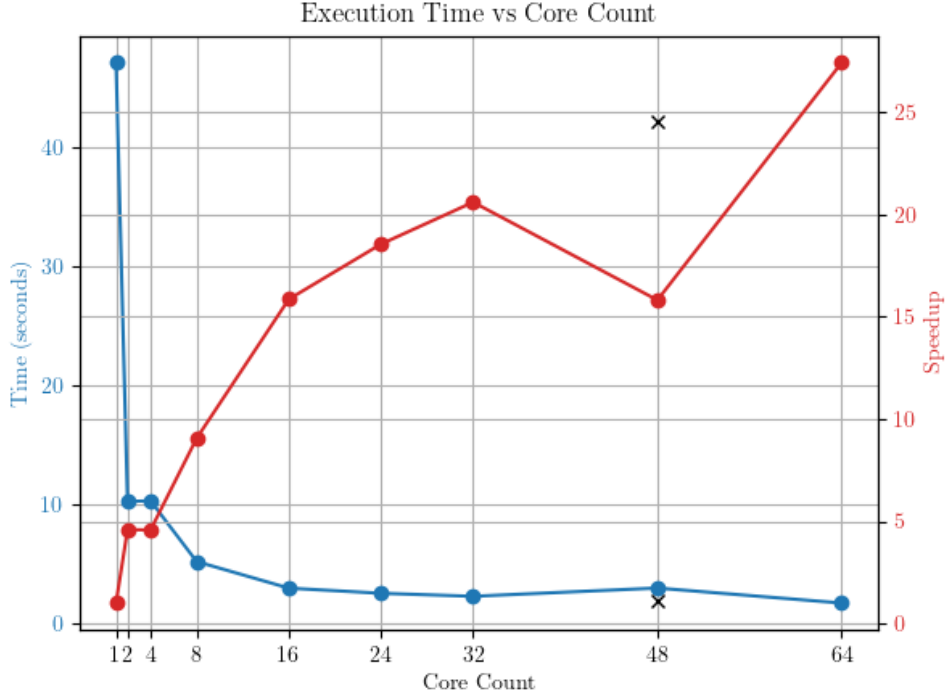

Figure 3: Speedup vs CPU Count
For this experiment, the execution time was measured and the speedup was calculated. The results are shown in Table 3 and Figure 3.
As one can clearly discern from the data in Table 3 and Figure 3, the speedup increases with the number of nodes (with the exception of  $n = 48$ ). This is expected as the more nodes we have, the more work can be done in parallel. However, the speedup is not linear. This is due to the overhead of communication between the nodes. The more nodes we have, the more communication is needed, and this overhead increases. This is especially visible in the data for  $n = 48$ . Here the speedup is lower than for  $n = 32$ . For this run the communication didn't go as smooth as for the other runs. This can potentially be attributed to the fact that one (or more) of the nodes or the network was under heavy load during this task.
**[Further investigation]** After observing this slower speed for the  $n = 48$ , I reran the tests multiple times and got a runtime of around 1.9s which was to be expected initially. Therefore, this one run is an odd one out, most likely due to the reasons mentioned above! I've also added the averaged data of the reruns as a datapoint in Figure 3.